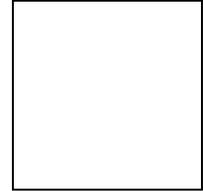

Figure 21
1. Remove the access panel located under the outboard face plate as shown in Figure 21. Loosen the three screws just enough so that the panel can slide free.